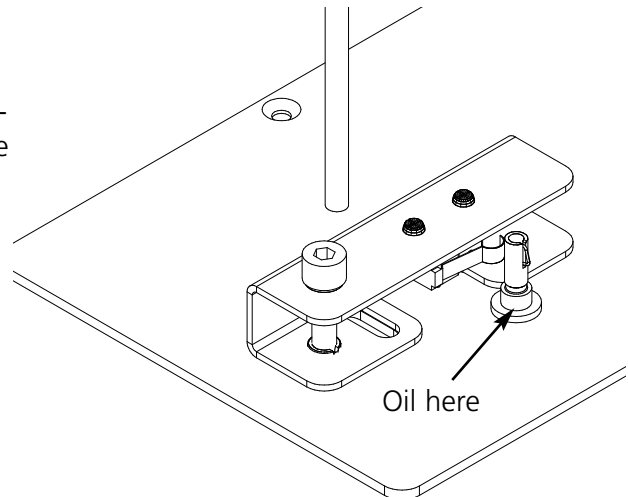

Figure 3-29
2. Clear the obstruction and lubricate the drive shaft (refer to Figure 3-29).